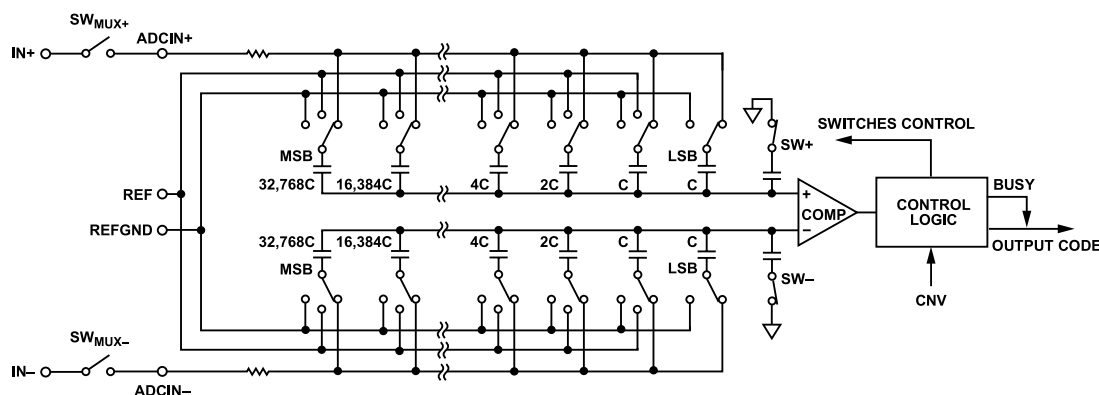
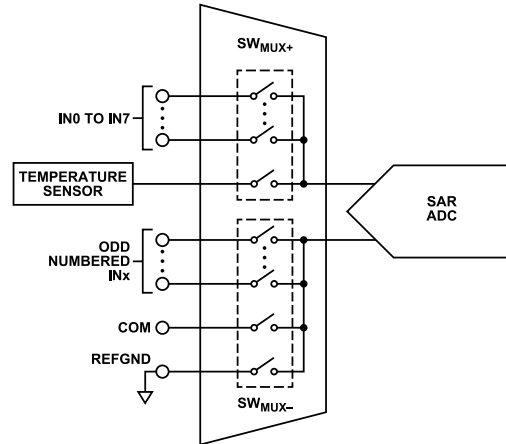
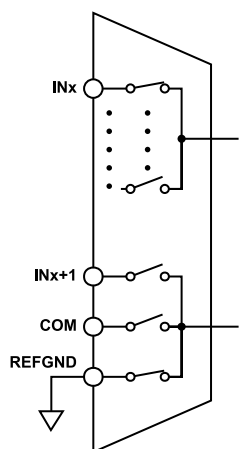

Figure 64. ADC Simplified Schematic
Figure 68. Multiplexer Simplified Schematic
Figure 69. INx Paired with REFGND
The AD4697/AD4698 contain an SAR-based ADC core that utilizes a charge redistribution digital-to-analog converter (DAC) to quantize the applied input voltage to an output code. Figure 64 shows a simplified schematic of the AD4697/AD4698 SAR ADC core.
The analog inputs and the temperature sensor are connected to the capacitor array inputs (ADCIN+ and ADCIN-) via the internal low crosstalk multiplexer, represented by SW_{MUX+} and SW_{MUX-} in Figure 64. The multiplexer switches are controlled by the internal channel sequencing logic and are updated once per conversion (see the Multiplexer section and the Channel Sequencing Modes section).
A low crosstalk analog multiplexer routes the signals from the analog input pins to the ADC core inputs. The impedance of the analog inputs is modeled as the parallel combination of the pin capacitance (C_{PIN}) and the network formed by the series connection of R_{IN} and C_{DAC} . R_{IN} represents the ADC input series resistance and the multiplexer switch resistance and is typically 240 Ω . C_{DAC} represents the ADC sampling capacitive DAC shown in Figure 64 and is typically 60 pF.
The AD4697/AD4698 contain a flexible, low crosstalk analog multiplexer for selecting from the eight analog inputs and internal temperature sensor and routing them to the inputs of the 16-bit, pseudo differential SAR, ADC core. Figure 68 shows a simplified schematic of the internal multiplexer. The SW_{MUX+} and SW_{MUX-} switches shown in Figure 64 and Figure 68 represent the multiplexer switches that route the selected channel to the ADC inputs (labeled ADCIN+ and ADCIN- in Figure 64). SW_{MUX+} and SW_{MUX-} are break-before-make and are controlled by the internal channel sequencing logic (see the Channel Sequencing Modes section).
The multiplexer allows flexible analog input channel configuration. The SW_{MUX-} position is user programmable and can be assigned to any of the pins shown in Figure 68 (see the Channel Configuration Options section).
The channel configuration settings include pin pairing assignments and signal polarity modes. The pin pairing options assign the position of SW_{MUX-} for each position of SW_{MUX+} and determine which signal is routed to the negative side of the SAR ADC core (ADCIN- in Figure 64). The signal polarity modes configure the ADCIN- voltage range. Figure 69 shows the pin pairing and voltage ranges for the different channel configuration options.
- Figure 69, IN0 to IN7 paired with REFGND
When the temperature sensor is selected, the multiplexer SW_{MUX+} switch (see Figure 68) selects the temperature sensor output and its SW_{MUX-} switch selects REFGND, and the SAR ADC core samples V_{TEMP} to generate a corresponding output code. The analog-to-digital conversion of the temperature sensor output utilizes the same transfer function as an analog input configured in unipolar mode with $\text{OSR} = 1$ (see the Transfer Function section).